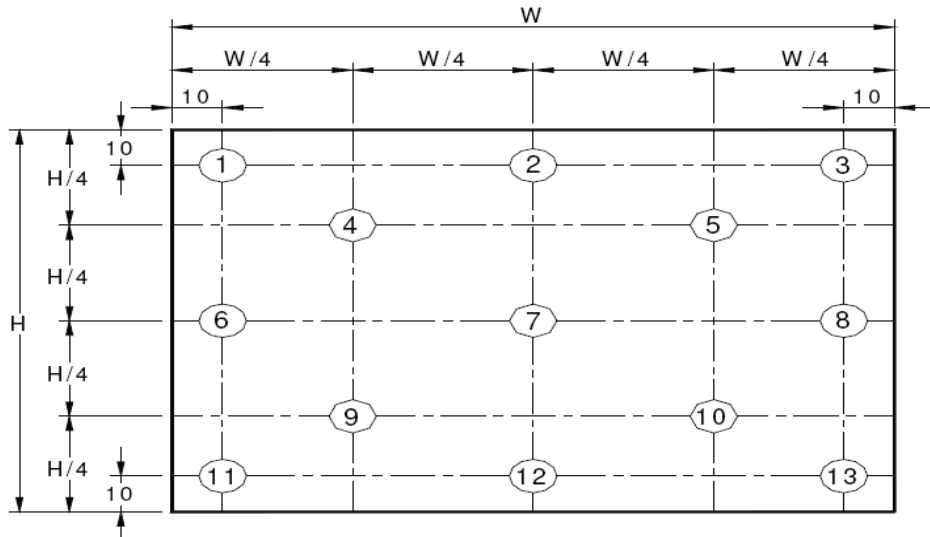

Figure 9. Uniformity Measurement Locations (13 points)
<p>Notes :</p> <ol style="list-style-type: none"> Viewing angle is the angle at which the contrast ratio is greater than 10. The viewing angles are determined for the horizontal or 3, 9 o'clock direction and the vertical or 6, 12 o'clock direction with respect to the optical axis which is normal to the LCD surface (see Figure 7). Contrast measurements shall be made at viewing angle of $\Theta = 0$ and at the center of the LCD surface. Luminance shall be measured with all pixels in the view field set first to white, then to the dark (black) state . (see Figure 7) Luminance Contrast Ratio (CR) is defined mathematically. $CR = \frac{\text{Luminance when displaying a white raster}}{\text{Luminance when displaying a black raster}}$ Center Luminance of white is defined as luminance values of 5 point average across the LCD surface. Luminance shall be measured with all pixels in the view field set first to white. This measurement shall be taken at the locations shown in Figure 8 for a total of the measurements per display. The White luminance uniformity on LCD surface is then expressed as : $\Delta Y = \text{Minimum Luminance of 5(or 13) points} / \text{Maximum Luminance of 5(or 13) points.}$(see Figure 8 and Figure 9). The color chromaticity coordinates specified in Table 5 shall be calculated from the spectral data measured with all pixels first in red, green, blue and white. Measurements shall be made at the center of the panel. The electro-optical response time measurements shall be made as Figure 10 by switching the “data” input signal ON and OFF. The times needed for the luminance to change from 10% to 90% is T_r, and 90% to 10% is T_r. Cross-Talk of one area of the LCD surface by another shall be measured by comparing the luminance (YA) of a 25mm diameter area, with all display pixels set to a gray level, to the luminance (YB) of that same area when any adjacent area is driven dark. (See Figure 11).
The White luminance uniformity on LCD surface is then expressed as : $\Delta Y5$ = Minimum Luminance of five points / Maximum Luminance of five points (see Figure 8) , $\Delta Y13$ = Minimum Luminance of 13 points /Maximum Luminance of 13 points (see Figure 9).